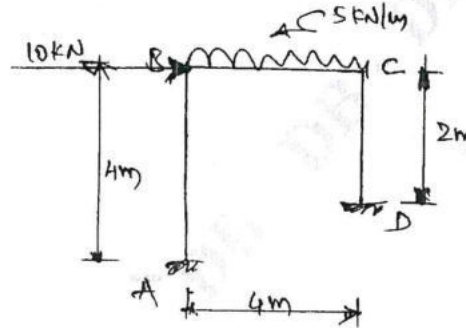

Fig. Q4
- 4 Analyse the portal frame by moment distribution method. Draw bending moment diagram. Refer Fig. Q4. Take EI constant. (20 Marks)